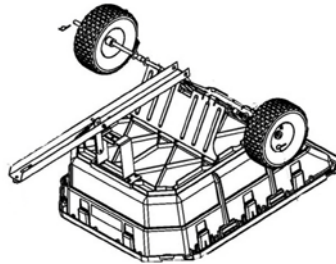

Fig. 2
4. Slide axle (31) through axle mount and tongue (3) **(Fig. 2)**
5. Place machine bushing (36), spacer (37), machine bushing (36) and wheel (30) onto axle. Insert cotter pin (38) in hole of axle (31) to secure. Add hub cap. (40) Repeat for other side.